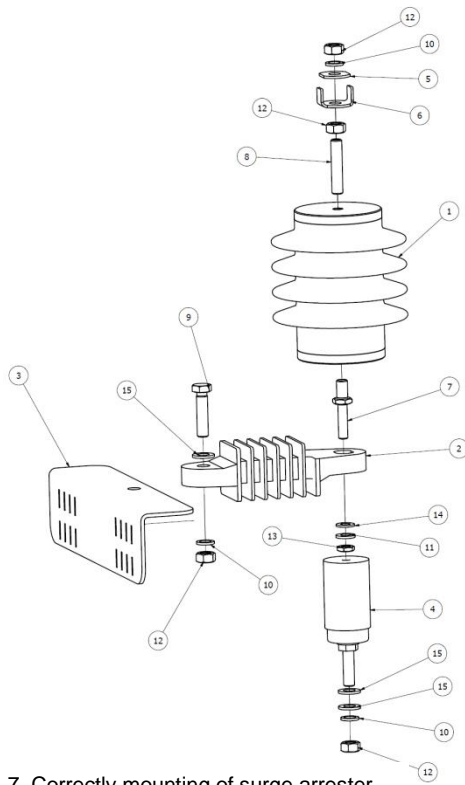

Fig. 7. Correctly mounting of surge arrester with insulation bracket and disconnector
Figure 7 shows a examples mounting of surge arrester equipped with disconnector. At first in top hole screw the pressure screw M12 with a torque 30 Nm pos 8. On the pressure screw mounting others items of line terminal pos. 5; 6; 10; 12. A nut with the number 12 in this unit screw with torque 50 Nm. (Operation of mounting the nut do after connecting a cabel from surge arrester to security object). Next in bottom hole of electrode screw the screw pos. 7 with torque 30 Nm. After that mounting a surge arrester on the insulating bracket pos. 2, then slide a pad pos. 14 and 11 on pin M10 and screw the nut with torque 30 Nm. To protruding pin M10 screw the disconnector pos. 4 with torque 20 Nm. In the bottom part of disconnector there is a pin with thread M12, on that pin mounting the elastic cable with ring tip with a nut pos. 12 and pad pos. 15 and 10 to grounded structure with torque 20 Nm. On that prepare unit after mounting the mounting base pos. 3 on pole structure (for example with mounting tape MTMN-G402) allows the final assembly the surge arrester with the insulating bracket on the base pos. 3. To mounting the insulation bracket pos. 2 on base pos. 3 used the bolt M12 with the pad pos. 15; 10 and a nut pos. 12, with torque 25 Nm for the nut. To this kind of construction it is possibility to connect the grounded and line cable.